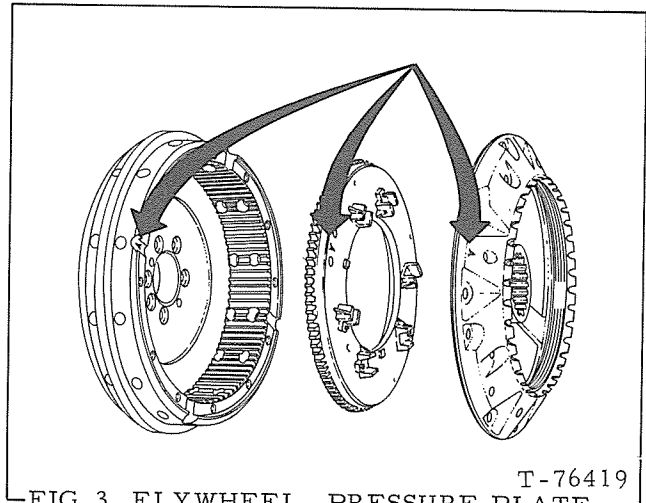

FIG. 3 FLYWHEEL, PRESSURE PLATE, AND BACK PLATE ALIGNMENT MARKS "A"
Align "A" marks, Fig. 3; attach pressure plate to back plate with capscrews, Fig. 4 (6), springs (11), and nuts (12). Tighten nuts only enough to expose two threads on each capscrew.